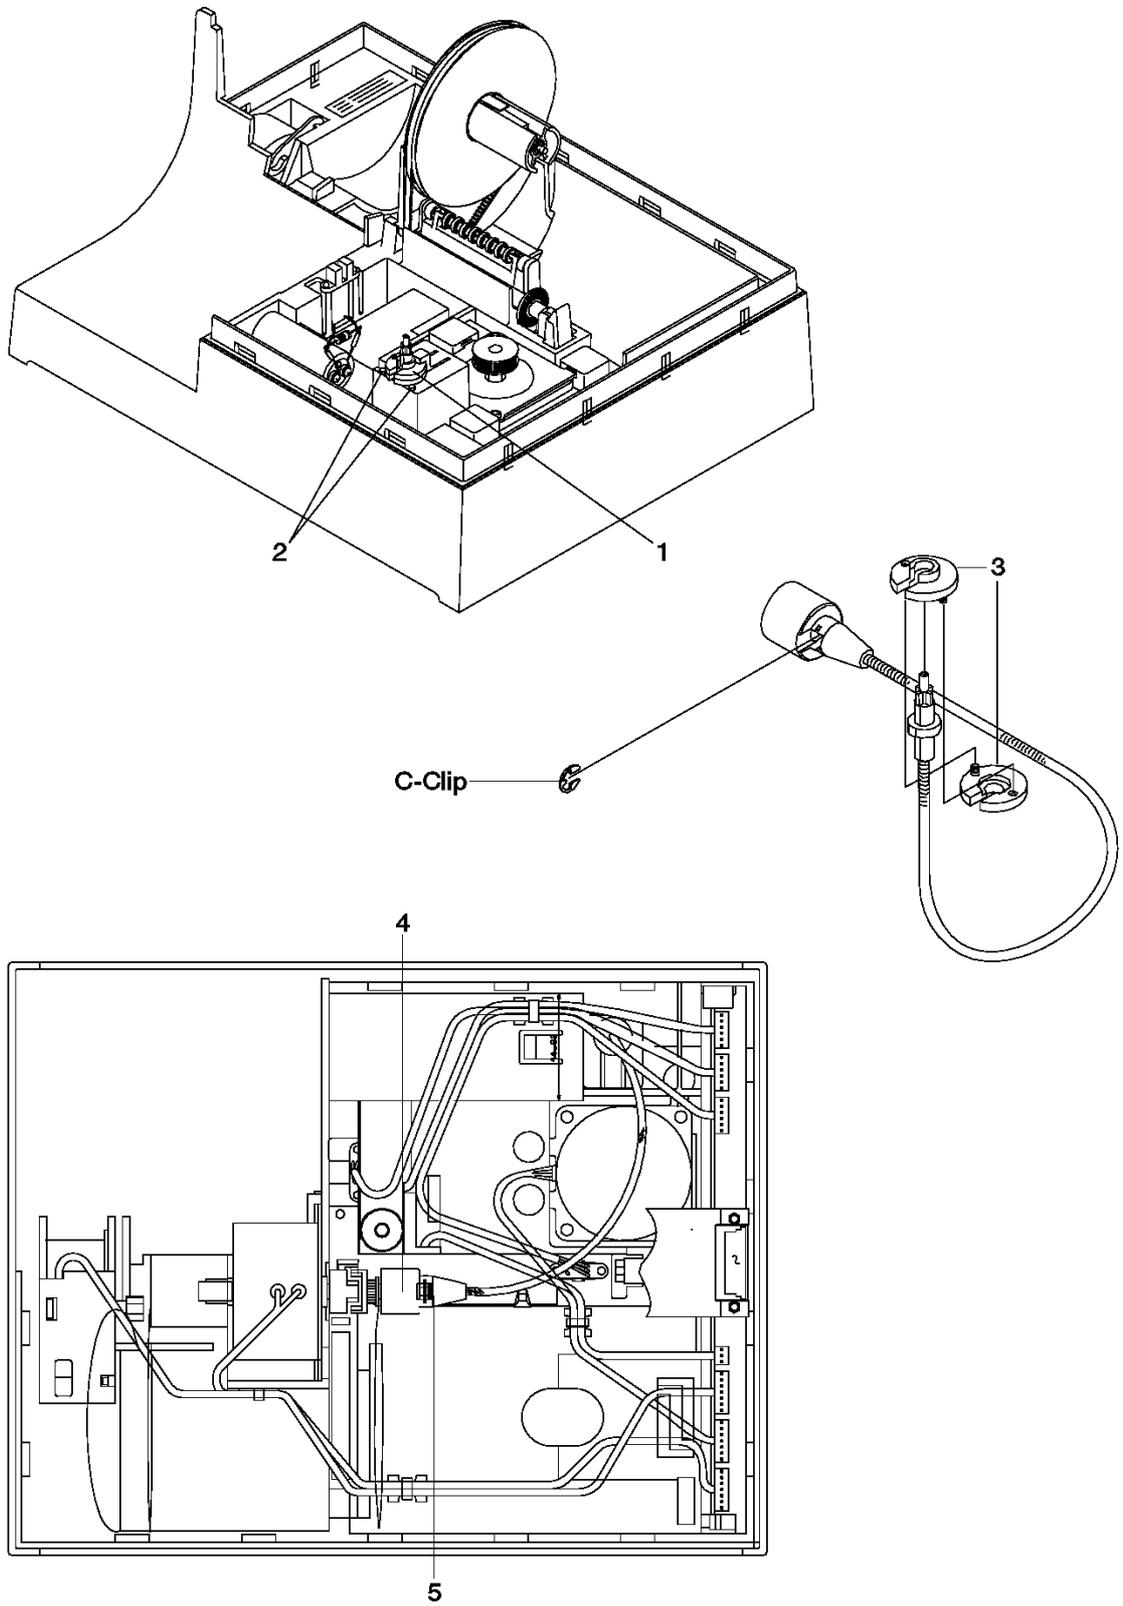

Figure E-14. Ribbon Drive Shaft and Bearing
2. Turn the shaft bearing (1) until the slot in the bearing aligns with the retainer (2). See Figure E-14 in topic E.10.2.
4. Remove the bearing from the shaft by separating the parts (3) as shown in Figure E-14 in topic E.10.2.
2. Put the bearing on the drive shaft by snapping the bearing parts together, as shown in Figure E-14.
3. Align the slot (1) in the bearing over the retainer (2).
6. Connect the ribbon drive shaft coupler (3) to the motor shaft.
7. Attach the coupler to the shaft with the C-clip (3).